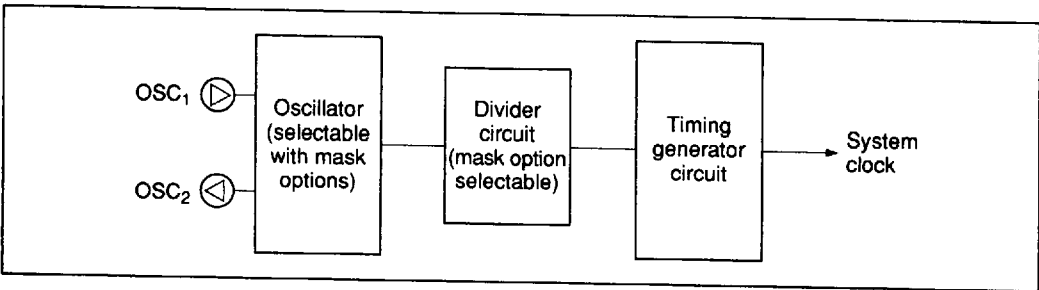
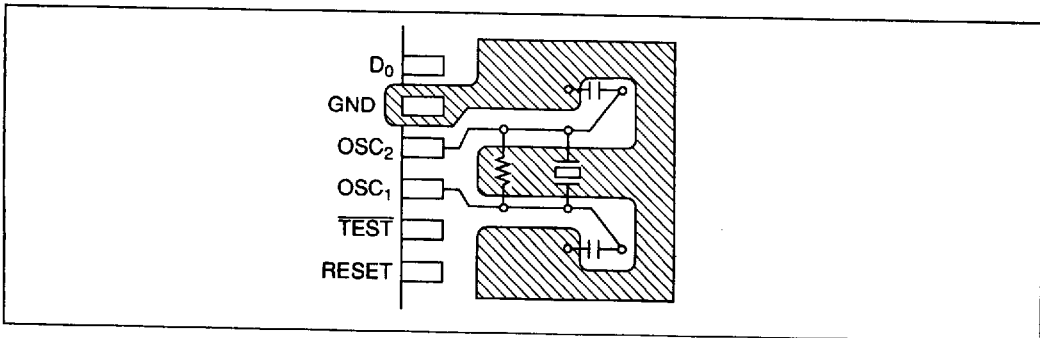

Figure 16 Internal Oscillator Circuit
Figure 17 Layout of Crystal and Ceramic Oscillator
Figure 16 outlines the internal oscillator circuit. Through the mask option, either a crystal oscillator or ceramic oscillator can be selected as the oscillator type. Refer to table 23 for the selection type. In addition, see figure 17 for the layout of the crystal
2. Wiring among OSC₁, OSC₂, and other elements should be as short as possible, and avoid crossing other wires. Refer to the recommended layout of the crystal and ceramic oscillator (figure 17).